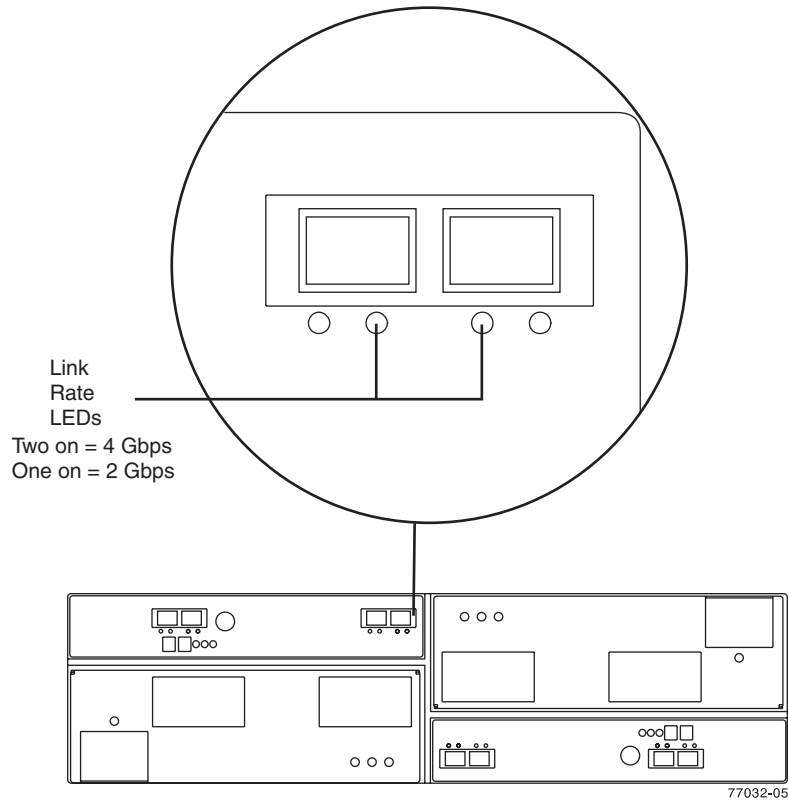

Figure 62. Link rate LEDs
1. Locate the Link Rate indicator LEDs. Figure 62 on page 113 shows the location of the Link Rate indicator lights on the back of the storage expansion enclosure.
4. Locate the Link Rate switch. Figure 62 shows the location of the Link Rate indicator light on the front of the command module.